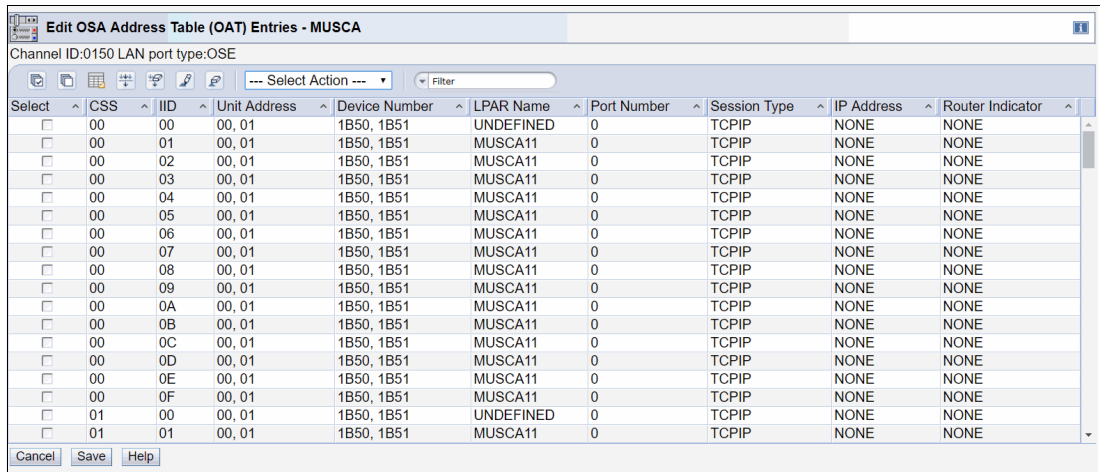

Figure 6-9 OSA/SF on HMC: Edit OSA Address Table (OAT) Entries window
5. Choose **Edit OAT entries**, and the Edit OSA Address Table (OAT) Entries window opens, (see Figure 6-9).